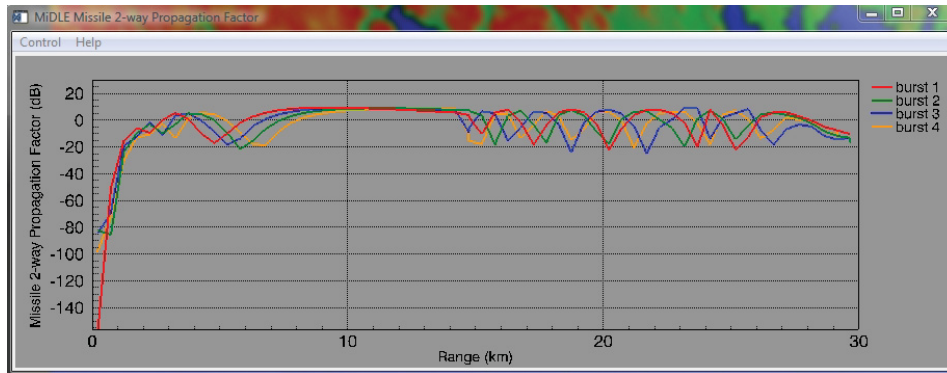

Figure 64: Missile Propagation Factor vs. Range Plot
The plot of the missile propagation factor (PF) is shown in Figure 64. For the default case the radar uses four bursts. The propagation factor calculated by MiDLE for each burst are shown. Up to a maximum of 20-bursts can be plotted.